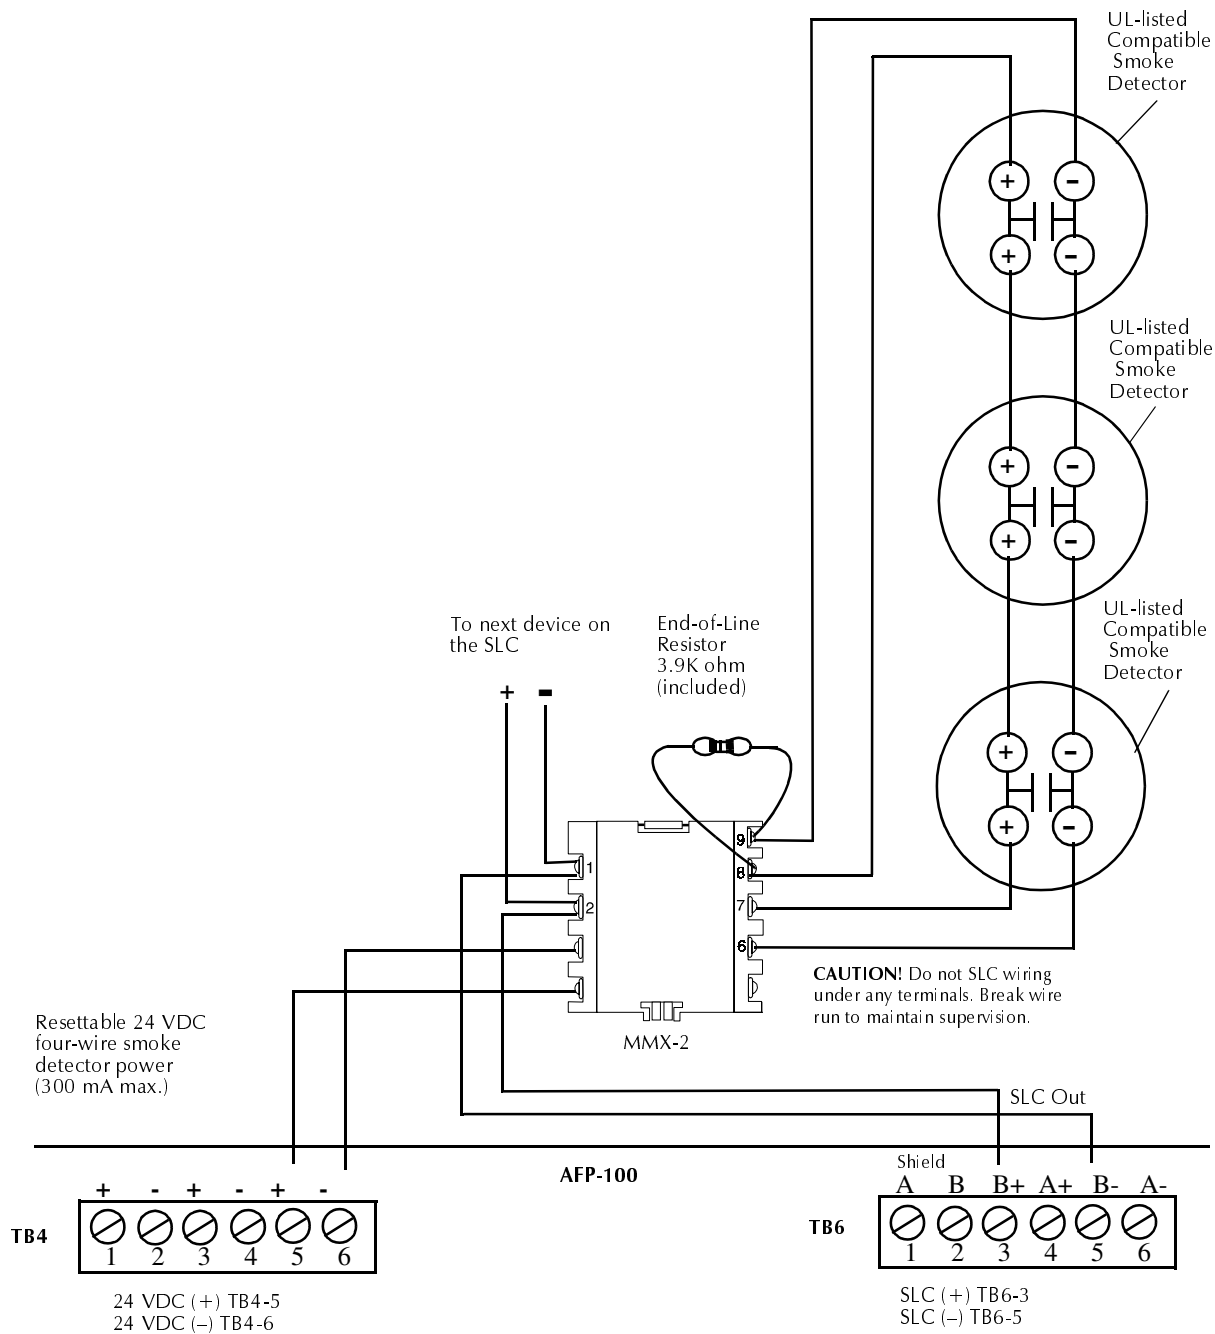

Figure 31 Style D Circuit using MMX-2
**NFPA Style D Initiating Device Circuit** Connect two-wire smoke detectors to MMX-2 terminals 6 (B–) and 9 (D–), 7 (B+) and 8 (D+) as illustrated in Figure 31, “Style D Circuit using MMX-2,” on page 48. IDC installation wiring must not exceed 25 ohms, 12-18 AWG (0.75 - 3.25 mm2) wire.